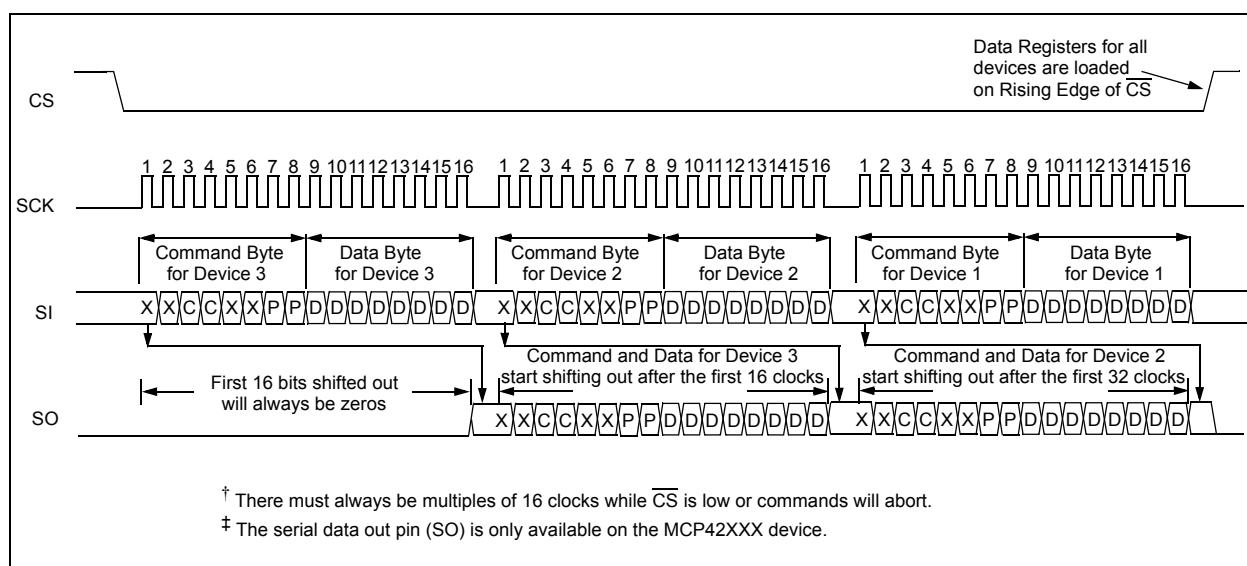
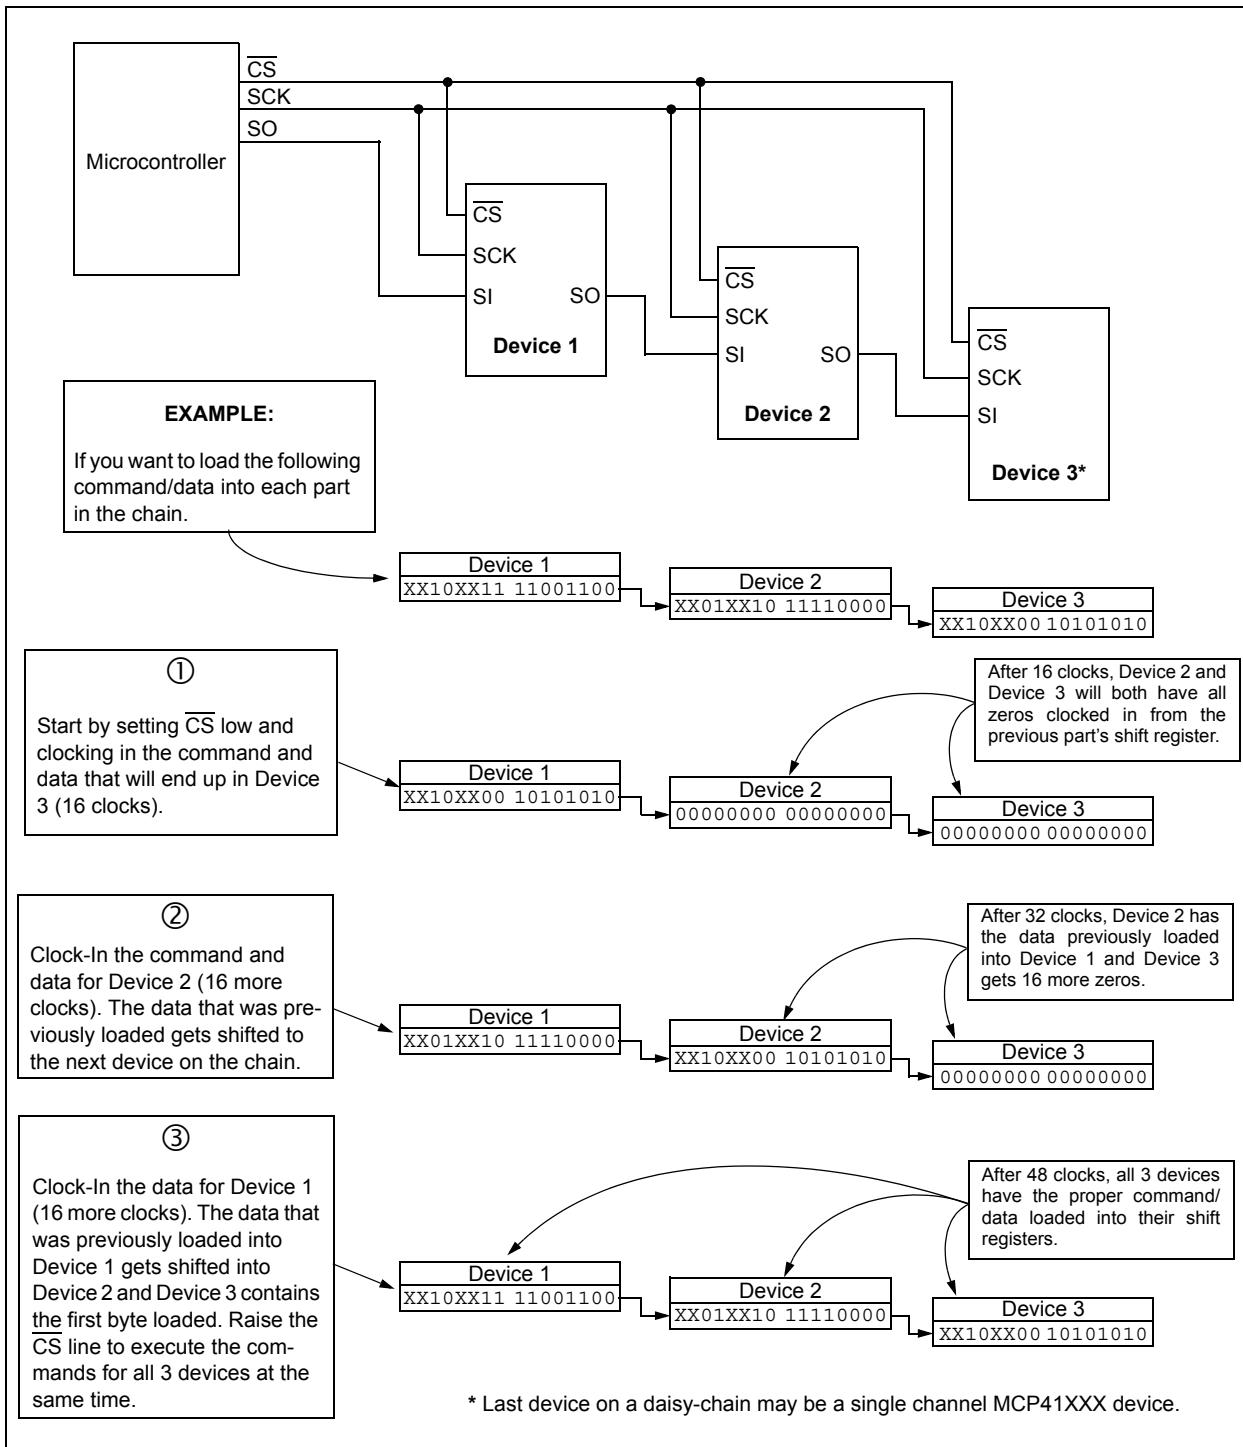

FIGURE 5-3: Timing Diagram for Daisy-Chain Configuration.
FIGURE 5-4: Daisy-Chain Configuration.
Multiple MCP42XXX devices can be connected in a daisy-chain configuration, as shown in Figure 5-4, by connecting the SO pin from one device to the SI pin on the next device. The data on the SO pin is the output of the 16-bit shift register. The daisy-chain configuration allows the system designer to communicate with several devices without using a separate CS line for each device. The example shows a daisy-chain configuration with three devices, although any number of devices (with or without the same resistor values) can be configured this way. While it is not possible to use a MCP41XXX at the beginning or middle of a daisy-chain (because it does not provide the serial data out (SO) pin), it is possible to use the device at the end of a chain. As shown in the timing diagram in Figure 5-3, data will be clocked-out of the SO pin on the falling edge of the clock. The SO pin has a CMOS push-pull output and will drive low when CS goes high. SO will not go to a high-impedance state when CS is held high.